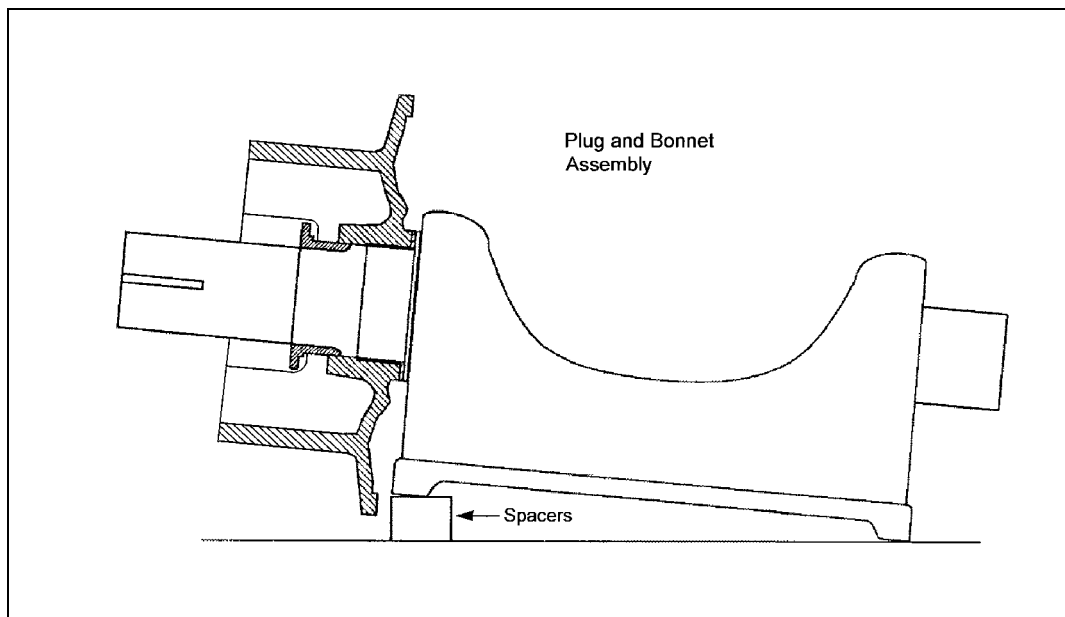

Figure 5 — Location of Spacers to Support Plug While Removing Bonnet
8. Lower the plug onto spacers so the bonnet can be removed. See Figure 5.